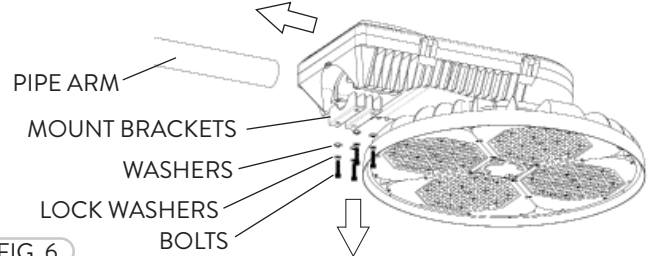

FIG. 6
- 1 The FHMA fixture can be mounted to most standard Roadway Arms. The 4-Bolt Mount Brackets supplied fits 1-1/4" to 2" nominal Pipe Arms. Loosen the bolts or remove if needed. Install the FHMA fixture onto the Pipe Arm (Fig. 6).